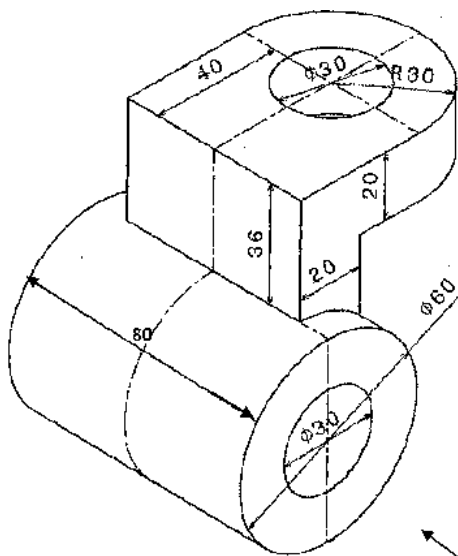

Figure 2
6. Figure 2 shows a pictorial view of an object. By using first angle method of projections, draw; (13)